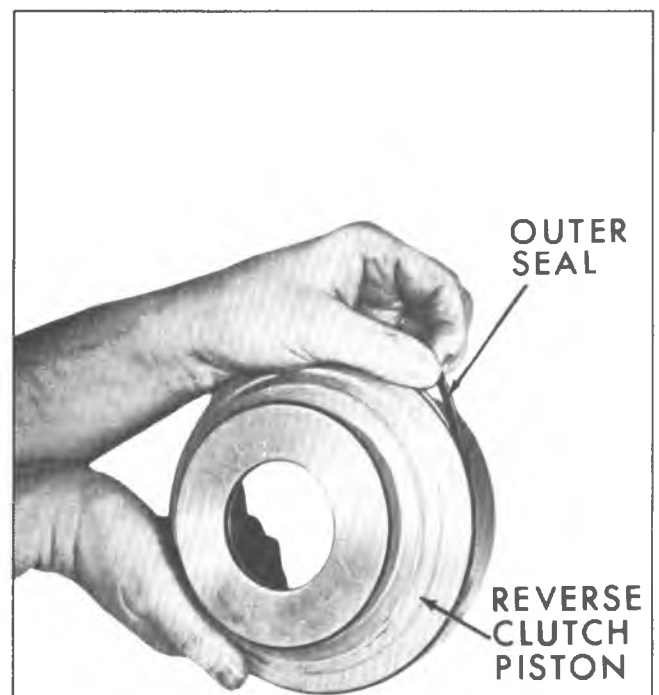

Fig. 48M--Removing Low and Reverse Clutch Piston
24. Remove low and reverse clutch piston outer seal (fig. 48M).